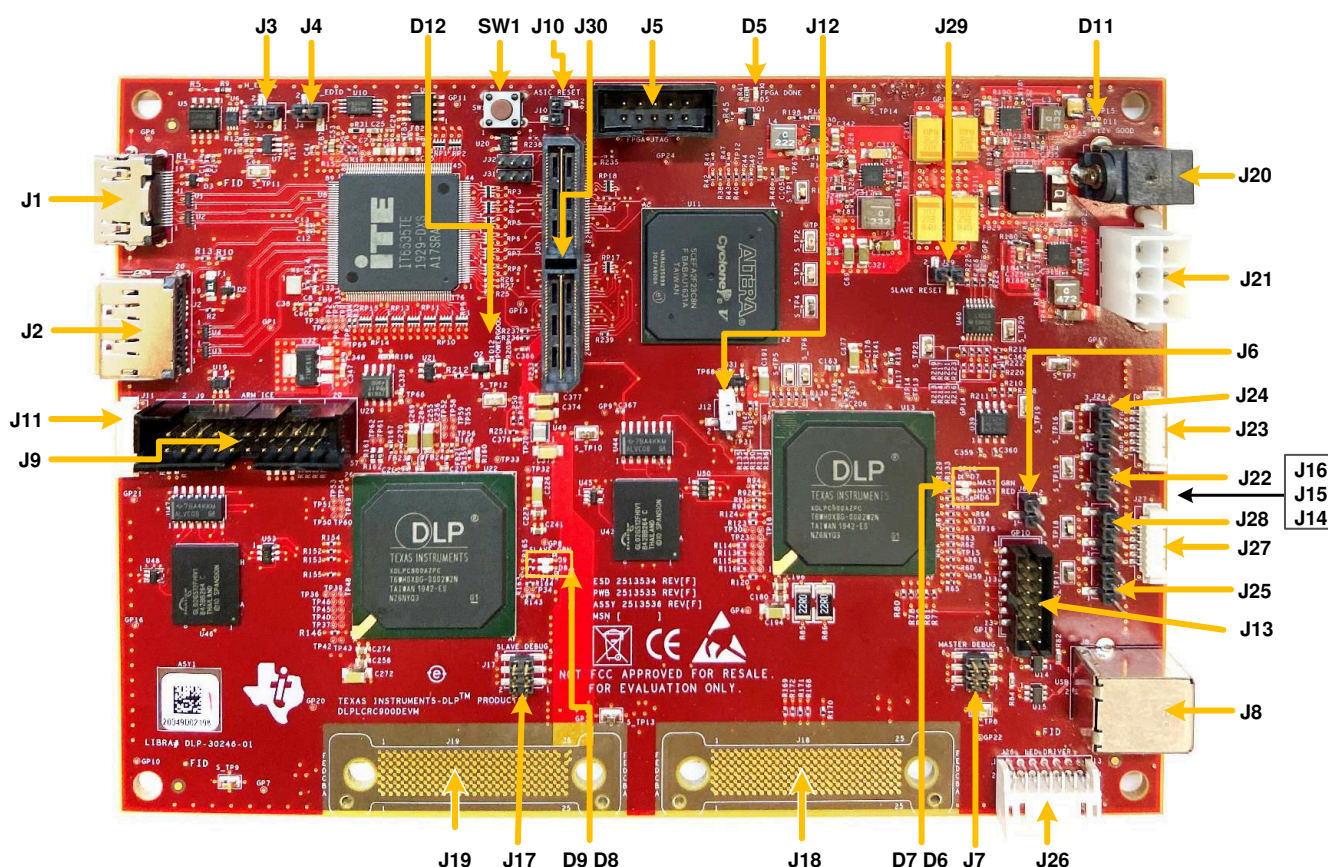

Figure 1-3. DLP LightCrafter Dual DLPC900 EVM Connectors (Top View)
Figure 1-3 depicts the switches and connectors with their respective locations. Note: Power supply (and cable), USB cable, and display cable are NOT included with the module.
1. Connect a 12-V DC power supply to the power supply connector J20 in Figure 1-3.
5. Connect a USB cable from a PC to connector J8 on the DLP LightCrafter Dual DLPC900 EVM, as seen in Figure 1-3. The first time the cable is connected on a PC, the DLP LightCrafter Dual DLPC900 EVM enumerates as a USB composite device with human-interface device (HID) class. No drivers are required since these are natively handled by all operating systems.